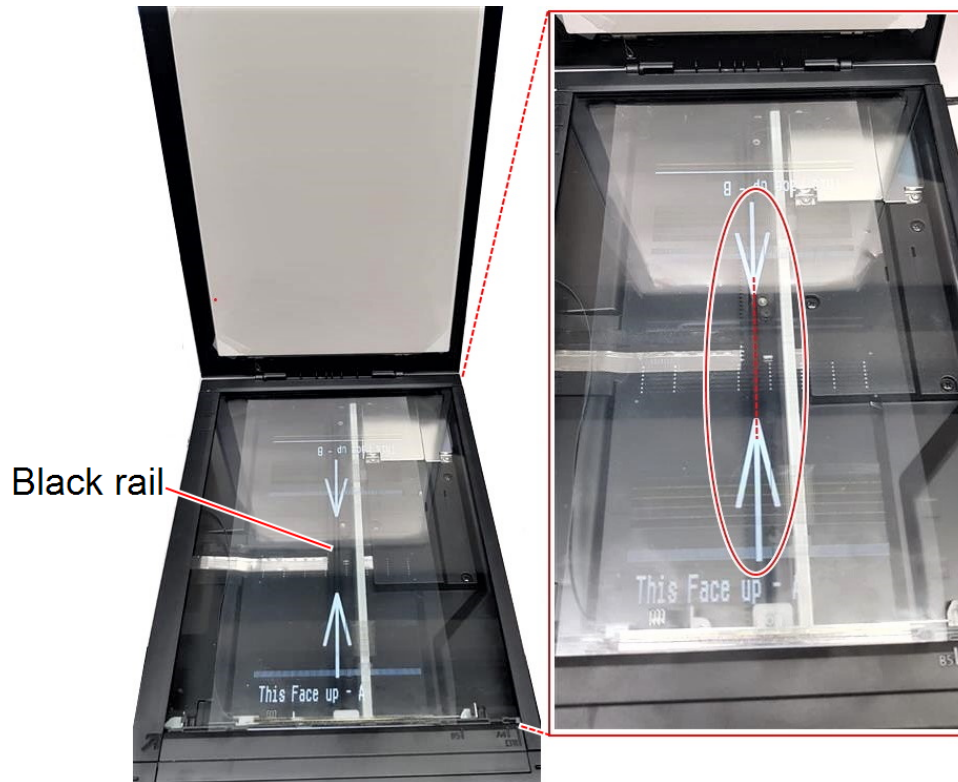

Figure 4-202 Placing the transparency on the scanner - side A
- Place the test-pattern transparency face up on the scanner platen, with the edge marked '**This Face Up - B**' along the bottom edge of the scanner glass (closest to you). See Figure 4-202 on page 4-128.